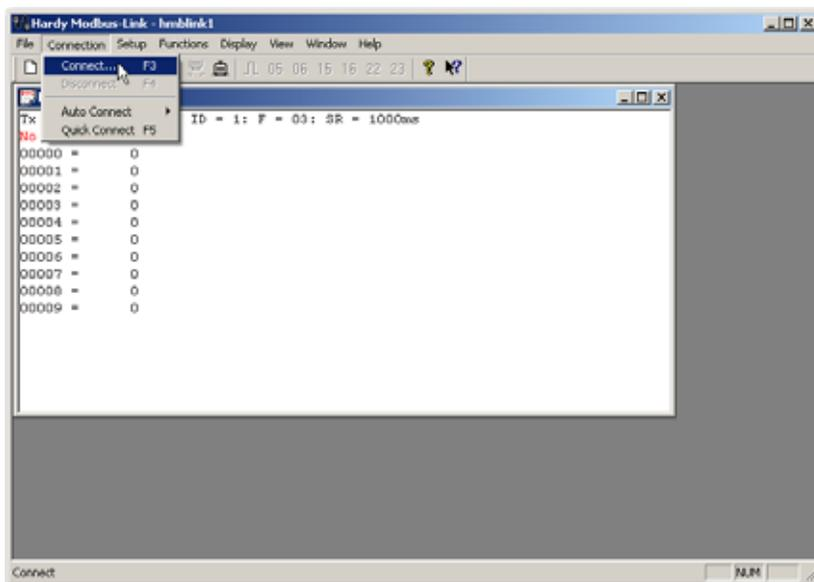

FIG. 229 HARDY MODBUS-LINK/SELECTING CONNECT
Step 4. Click on the Connection pull down menu. (See Fig. 229)